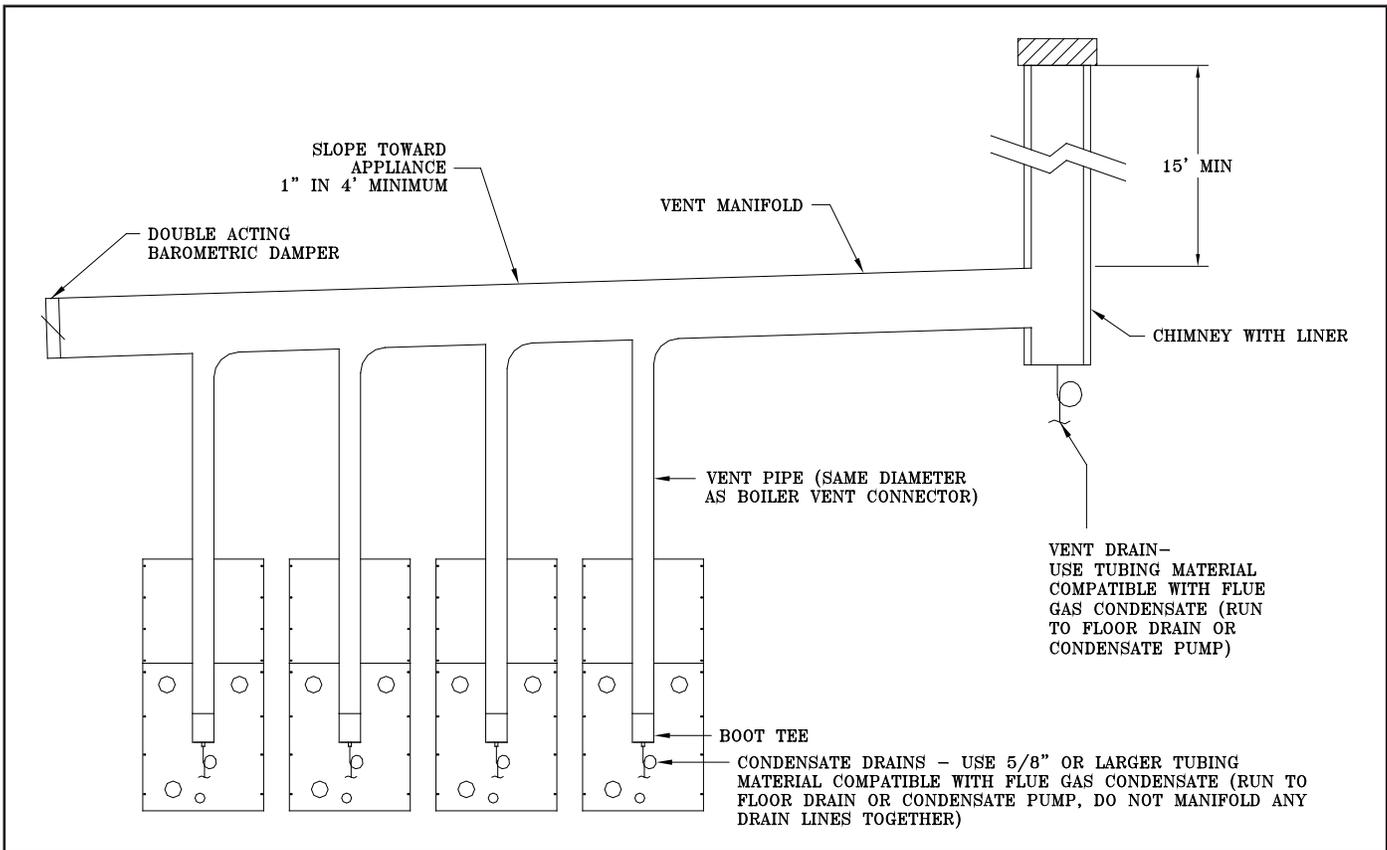

Figure 10: Modular System: Conventional Venting (Negative Pressure)
- Refer to Figure 10 for an example of a typical conventional venting arrangement for modular Water Heaters.
- iii. Install a double acting barometric damper with integral flue spillage interlock (as shown in Figure 10).
- vi. Install a condensate drain to collect any condensate that may form in the lined chimney or vertical common vent (refer to figure 10).